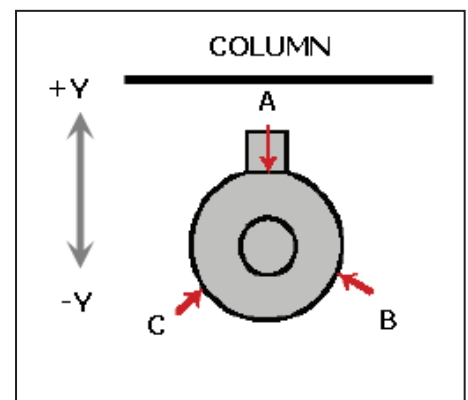

Figure 8.23
- Orient the probe in the spindle so one of three adjustment screws is opposite the machine column (see Figure 8.23). Label this Screw A.